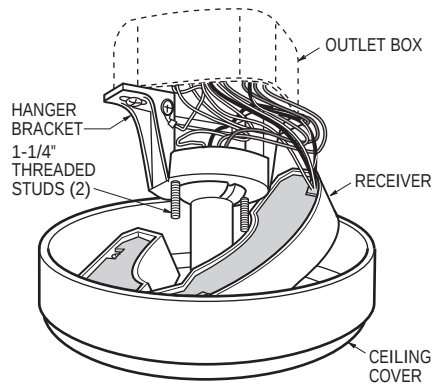

Figure 20
- 1. Screw the two 1-1/4" threaded studs (supplied) into the tapped holes in the hanger bracket (Figure 20).